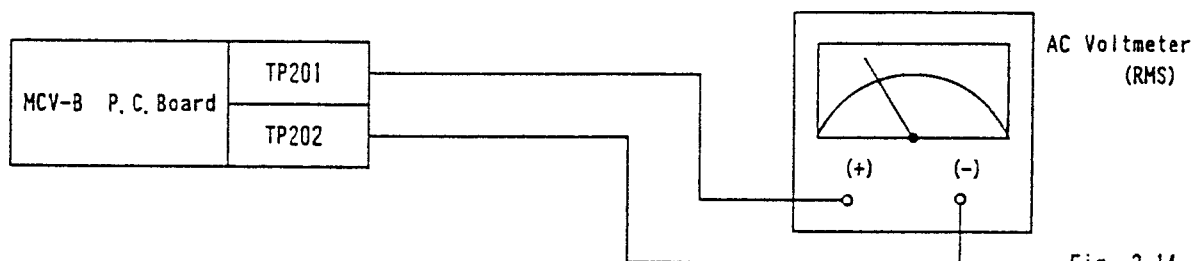

Fig. 3-14
1. Connect the equipment as shown in Fig. 3-14.